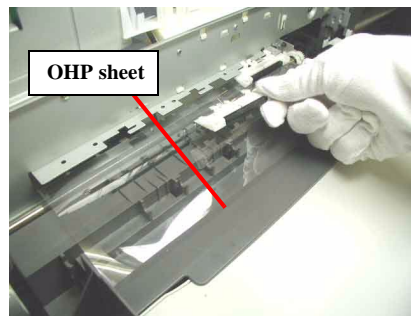

Figure 4-65. Paper guide removal procedure (2)
- Avoid to damage the coated surface of the PF roller by using the OHP sheet. (Refer to Figure 4-65)